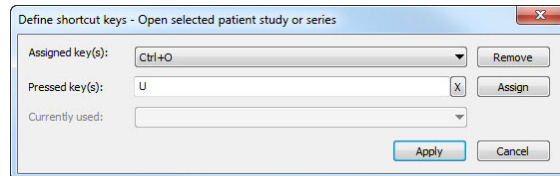

Figure 67 – Define shortcut keys dialog
3. The **Define shortcut keys** dialog is then displayed (see Figure 67) in which you press the key or key combination for your shortcut. The key or key combination that was pressed appears in the **Pressed key(s)** box.